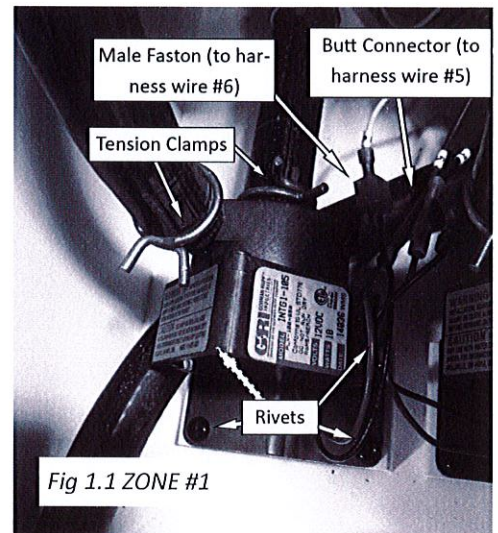

Fig 1.1 ZONE #1
- Circulation Pump ZONE #1:** Disconnect the male Faston connector of the pump from harness wire #6. Remove the butt connector from the harness by cutting harness wire #5 and the red lead wire on either side of the butt connector (see figure 1.1).
10. Using a small flathead screwdriver, pry the snap rivets from the base of the pump to remove the pump (see figure 1.1 and 1.2).